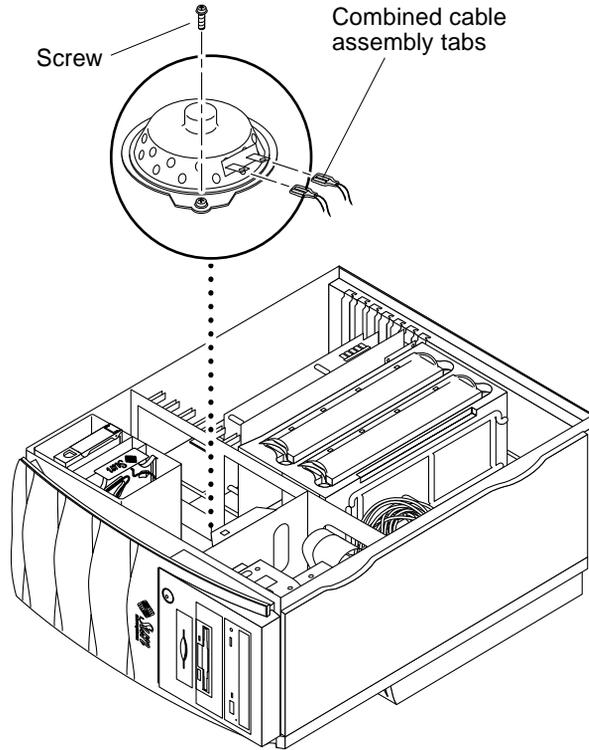

FIGURE 6-15 Removing and Replacing the Speaker Assembly
2. Using a No. 2 Phillips screwdriver, remove the screw securing the speaker assembly to the chassis (FIGURE 6-15).
1. **Connect the combined cable assembly connectors to the speaker assembly terminators (FIGURE 6-15).**